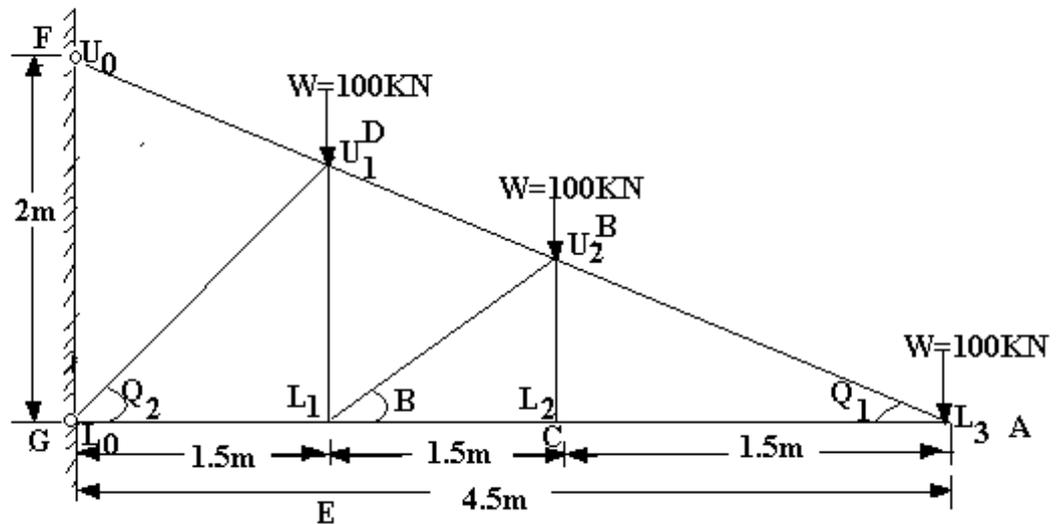

Figure 5
5. Analyse the cantilever truss shown in Figure 5 by method of sections. [16]